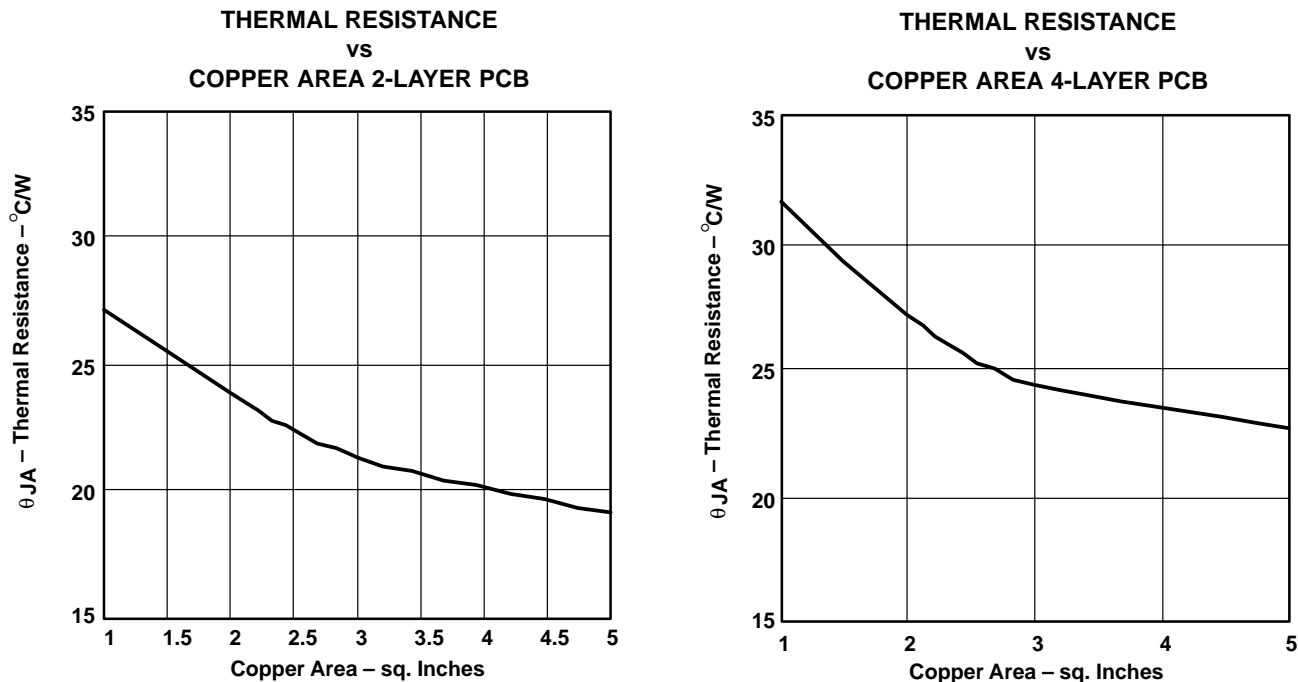

Figure 47. Thermal Resistance
$$\Theta_{JA} = 19^\circ\text{C/W} \quad (2\text{-Layer PCB, } 5 \text{ sq. in. copper, see Figure 47)} \quad (8)$$
Figures 47 and 48 show the results of several thermal experiments conducted with the TPA3004D2. Both figures show that the best thermal performance can be achieved with more copper area for heat dissipation and an adequate number of thermal vias.
Figure 47 shows two curves for a 2-layer and 4-layer PCB. The 2-layer PCB layout was tightly controlled with a fixed amount of 2 oz. copper on the bottom layer of the PCB. The amount of copper is shown on the x-axis. Nine thermal vias of 13 mil (0.33mm) diameter were drilled under the PowerPad and connected to the bottom layer. The top layer only consisted of traces for signal routing.